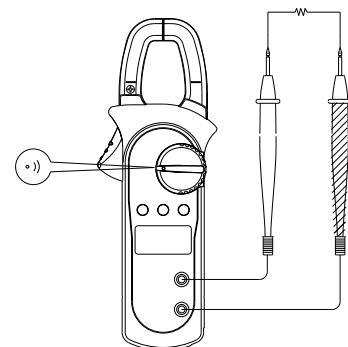

Figure 7
5. Conductance detection (↔) (shown in Figure 7)